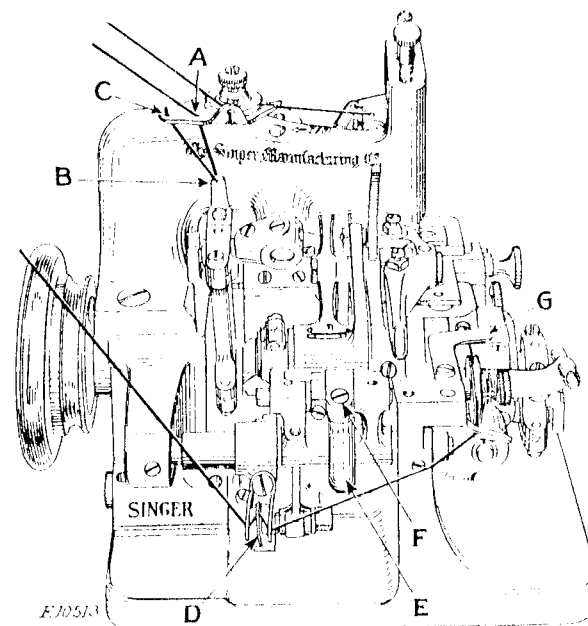

Fig. 11.
Note : Machines SIK2, SIK5, SIK7, SIK9, SIK22 and SIK23 have a thread pull-off (D, Fig. 11) at the back of the machine under the work plate, and Machine SIK12 has a thread pull-off above the work plate. When threading these machines, pass the thread from the unwinder through the thread pull-off, as shown in Fig. 11, then continue as instructed above.
Machines SIK2, SIK5, SIK22 and SIK23 have a thread nipper (G, Fig. 11) for the left hand looper thread. When making the three-thread, single pull stitch on any of these machines, the thread should be passed from the tension discs (BB), between the nipper blades (G, Fig. 11) and through the thread tube (CC).
Note : Machines 81K2, 81K5, 81K7, 81K9, 81K20, 81K21, 81K22 and 81K23 have a thread pull-off (B, Fig. 11) at the top of the needle bar connecting rod. When threading any of these machines, have the thread pass down through the hole (A, Fig. 11) in the tension bracket, through the hole in the pull-off (B), then up through the hole (C, Fig. 11) in the tension bracket and continue as previously instructed.
The height of the rear feed dog may be changed by loosening the clamping screw (F, Fig. 11) and moving the lever (E, Fig. 11) up or down.